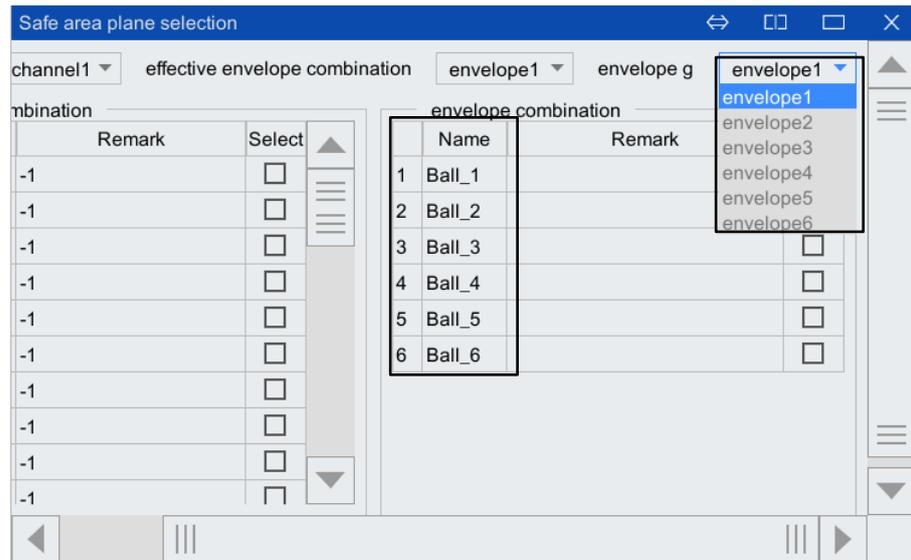

Figure 6-46 [Envelope] drop-down list
Step1.Click the [Envelope g] drop-down list in Figure 6-46. There are 6 sets of envelopes to choose from. Each set of envelopes can set up to 6 envelope balls (Ball), that is, one tool can have up to 6 envelopes. Enveloping the ball, the specific use of several enveloping balls can be customized by the user.
Step2.Click the row of any tool ball (Ball) in the [effective envelope combination] box in Figure 6-46 to set the envelope ball in the pop-up [Envelope combination] interface, as shown in Figure 6-47 As shown, the content description in the [Envelope combination] interface refers to Table 6-25.
Step1.Click the row of any zone (Zone) in the [Zone Combination] box in Figure 6-46, and the [Zone Edit] interface shown in Figure 6-52 will pop up.